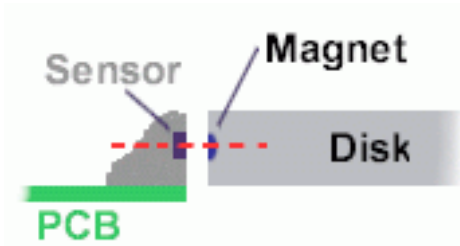

Figure 3 Ensure correct alignment of magnet disk and sensor.
- Take care that the magnets in the disk are approximately in the same height as the sensor, see figure 3 on page 8.